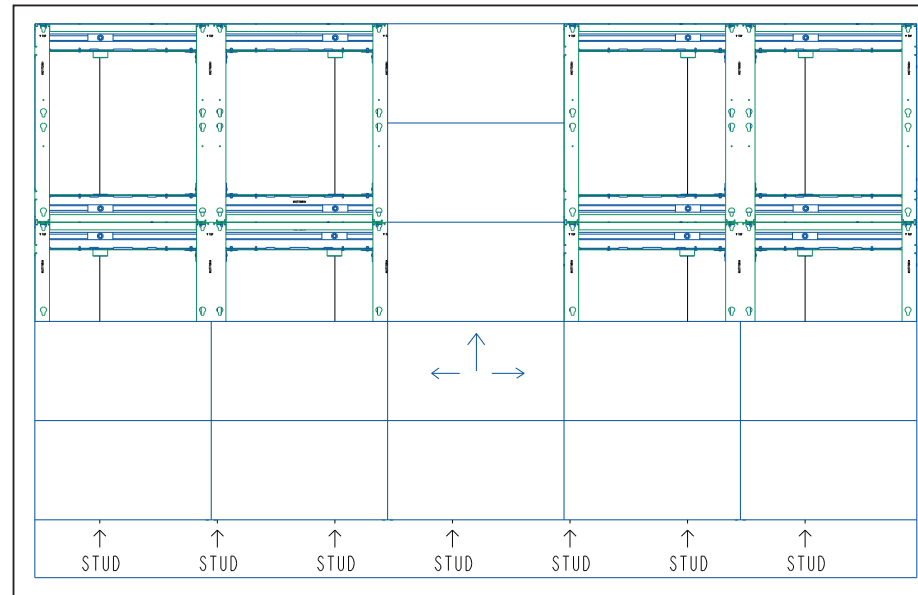

Figure 24: Install Remaining Panels in Display
9. Repeat **Steps 1-3** for the remaining panels in the display. Start at the center of the next row up, install the columns, and then fill in from the bottom out from there. Refer to **Figure 24**.